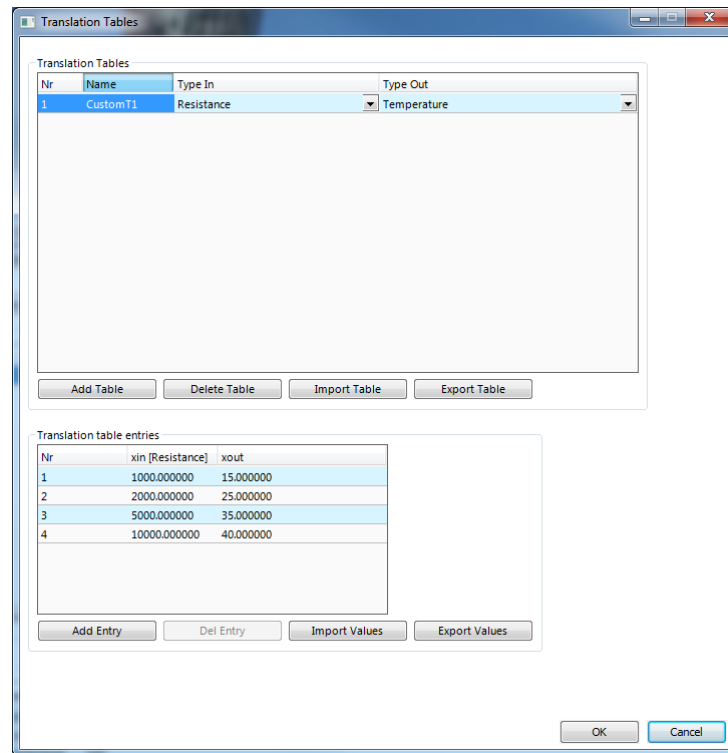

Figure 68: L-IOB Translation Tables
4. To setup translation tables for certain I/O interpretation modes, click the **Translation Tables** button in the **L-IOB Device** tab, see Figure 68 as well as the end of Section 10.2.3.